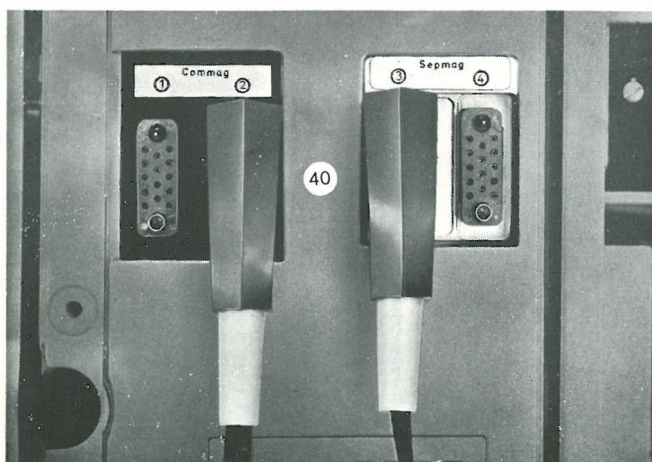

Fig. 7
2. Sockets 40: Connect double-band cable to sockets ② and ③ (see figure 7).
Connect the double-band cable to sockets ② and ③ (see figure 7).
3. Sockets **40**: Connect the double-band cable to sockets **②** and **③**, see **figure 7**.